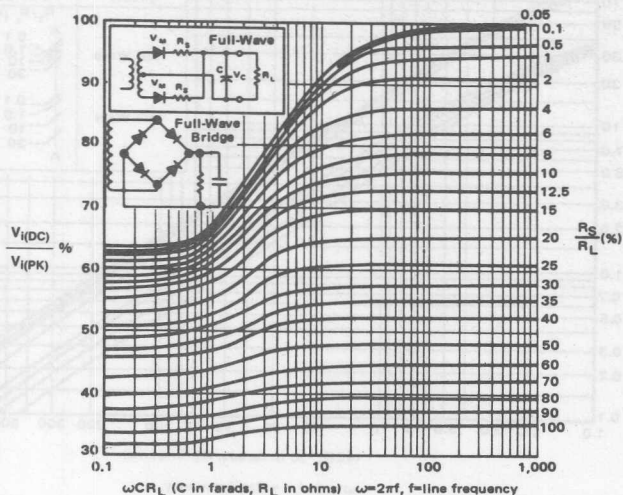

Fig. 2 - Input Voltage (DC/pk) Ratio for Full Wave Rectifier
5. From the graph of fig. 2 for  $\frac{V_{i(DC)}}{V_{i(pk)}} = 0,88$  you get: